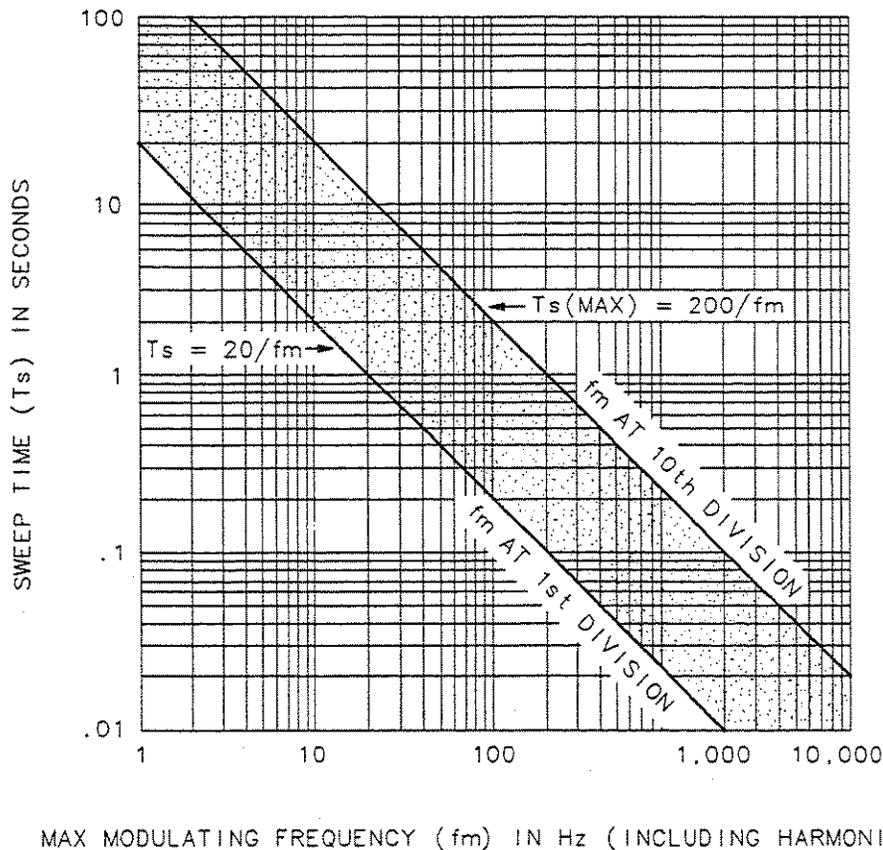

Figure 2-28. Maximum Modulation Frequency versus Sweep Time
7. See Figure 2-28, which shows maximum modulation frequency (f_m) in Hz versus sweep time (T_s) in seconds. Set the sweep time less than $T_s(\text{max})$ for that maximum modulation frequency (f_m) including the harmonics of the signal. The upper curve relates the sweep time to the maximum modulation frequency that can be observed (that is, the modulation frequency represented by the right edge of the graticule). The lower curve represents the modulation frequency one division from the left side of the graticule.